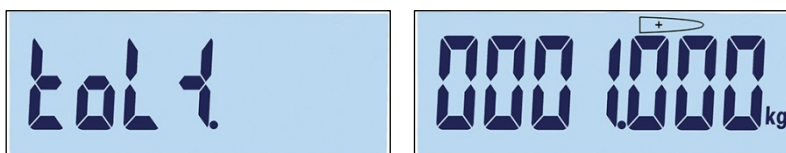

Figure 3-49: Positive Tolerance Label and Setting Screens
- The positive tolerance (Tol +) is edited in the next screen (Figure 3-49). Once the value is set, press  to move to the next step.